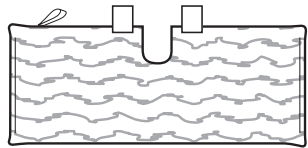

fig. 14
**NEVER USE BLEACH, POWDERED DETERGENT, OR FABRIC SOFTENERS** as they may damage or leave a coating on the Dirt Grip Pocket Pads that will reduce their cleaning performance and absorbency. Dirt Grip Pocket Pads should be line-dried or tumble-dried on a low setting, as this will extend the life of the microfiber fabric (fig. 14).